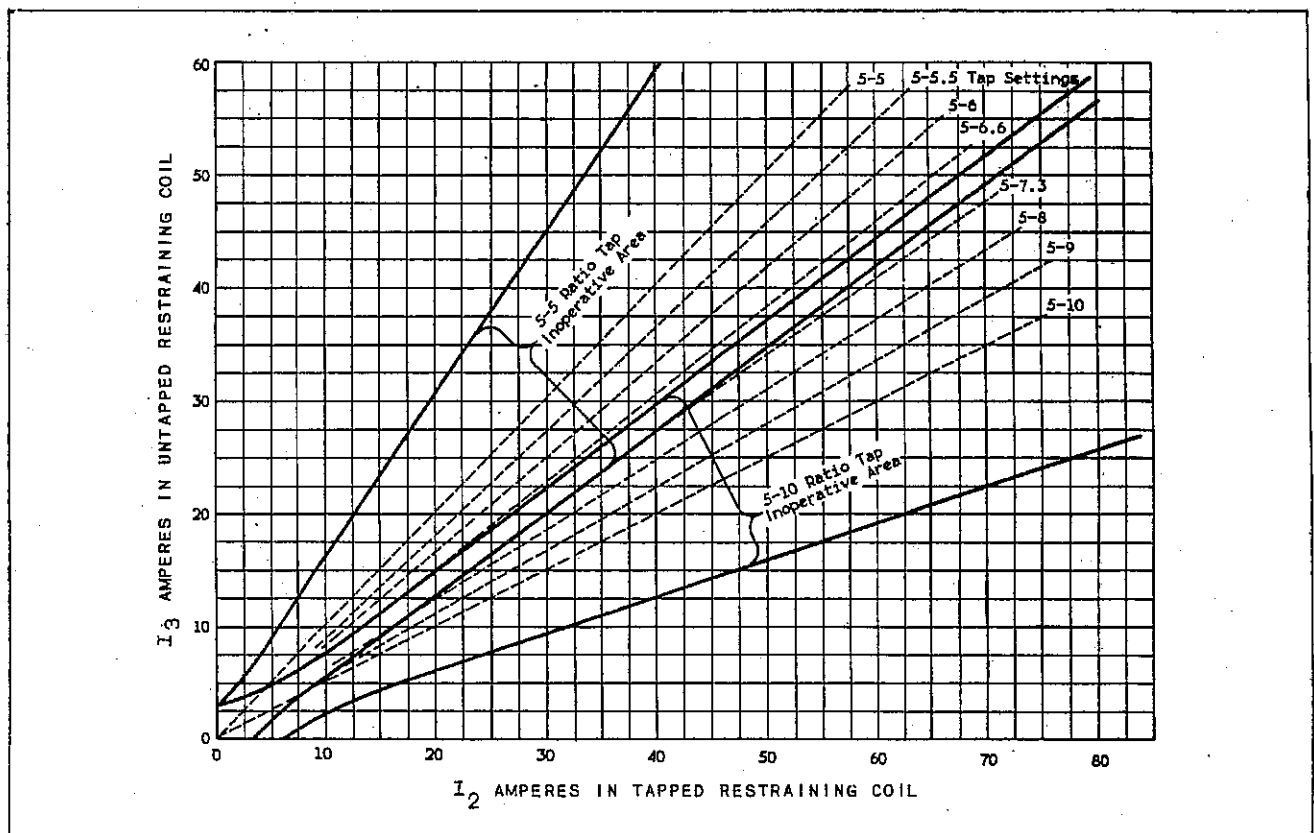
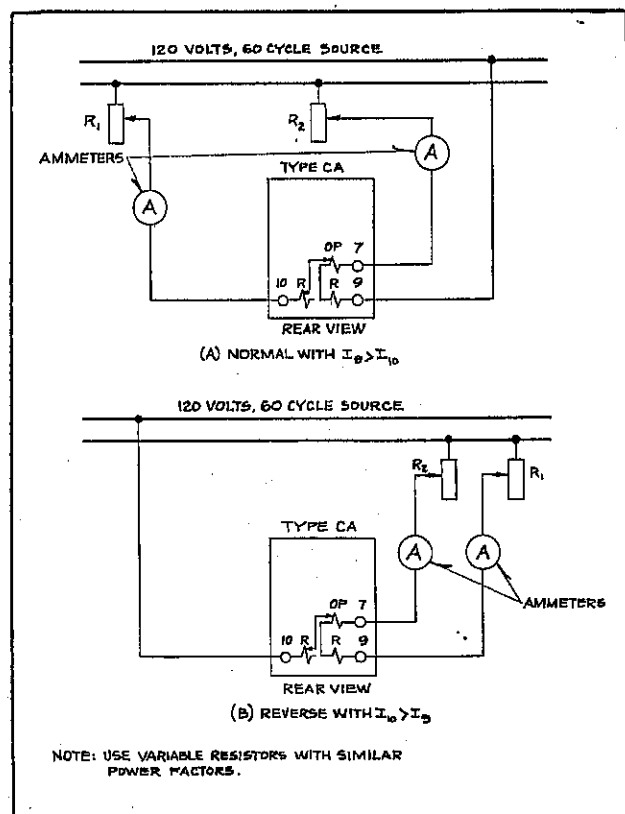

Fig. 5—Typical Operating Curves for High Values of Current.
Fig. 12—Diagrams of Test Connections for the Type CA Transformer Relay in the Standard Case.
As an example of the degree of accuracy of the formula consider the point $I_2 = 43.5$, and $I_3 = 30$, read from the lower curve for the 5-5 tap, Figure 5. Applying the formula, equation (2), the calculated value of I_2 is found to be 45 amperes, which is fairly close to the curve value, $I_2 = 43.5$.
To check the polarity of the restraining coils, adjust the spiral spring for zero tension by turning the spring adjuster. Then with the relay connected as shown in Fig. 12 or 13 pass 10 amperes through the two restraining coils with the lead to the operating coil disconnected. This should produce a torque in the contact opening direction. Similarly, 5 amperes flowing in one restraining coil and the operating coil should produce a positive contact closing torque.
Adjust the position of the contact stop, and the position of the stationary contacts, so that the moving contact travel is $7/32$ inch, and the stationary contacts make at exactly the same time. Adjust the relay for minimum trip by passing current through one restraining coil and the operating coil in series as shown in Fig. 12 or 13 with the lead to the other restraining coil disconnected. Tighten the spiral spring by means of the spring adjuster until the relay contacts just close at 2.75 amperes flowing through the untapped restraining coil and the operating coil with the relay set on the 5-5 tap.
In checking the percentage sensitivity, set the rheostat R_1 of Fig. 12 or 13 for 20 amps. restraining current, and then vary the operating current by adjusting the rheostat, R_2 , until the relay just trips. This procedure may be followed for both the normal and reverse connections, and the results compared with Fig. 5 which represents typical curves.